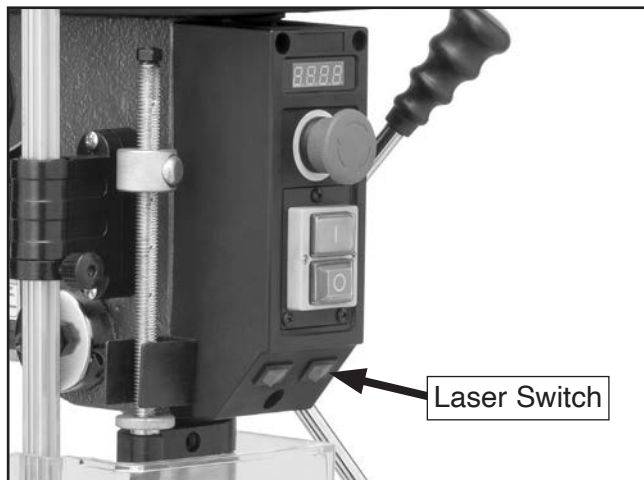

Figure 46. Location of T33959/T33960 laser switch.
6. Connect drill press to power. Use laser switch to turn laser guide **ON** (see **Figures 46–47**).